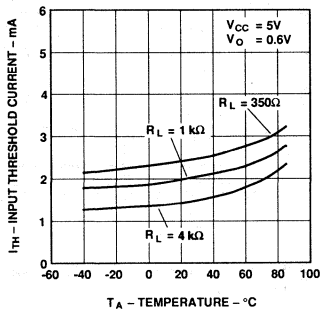

Figure 15. Input Threshold Current vs. Temperature.
- By-passing of the power supply line is required, with a $0.1\ \mu\text{F}$ ceramic disc capacitor adjacent to each optocoupler as illustrated in Figure 15. Total lead length between both ends of the capacitor and the isolator pins should not exceed 10 mm.
- As illustrated in Figure 15 the V_{CC} and GND traces can be located between the input and the output leads of the HCPL-2630/2631/4661 to provide additional noise immunity at the compromise of insulation capability.